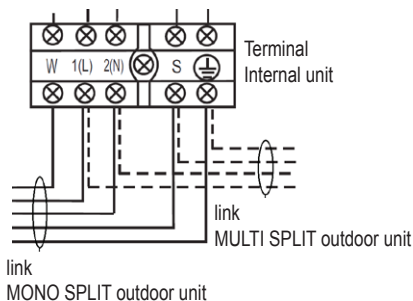

fig. 17 -
3. Make the connections referring to the wiring diagrams of the unit "fig. 17 -".